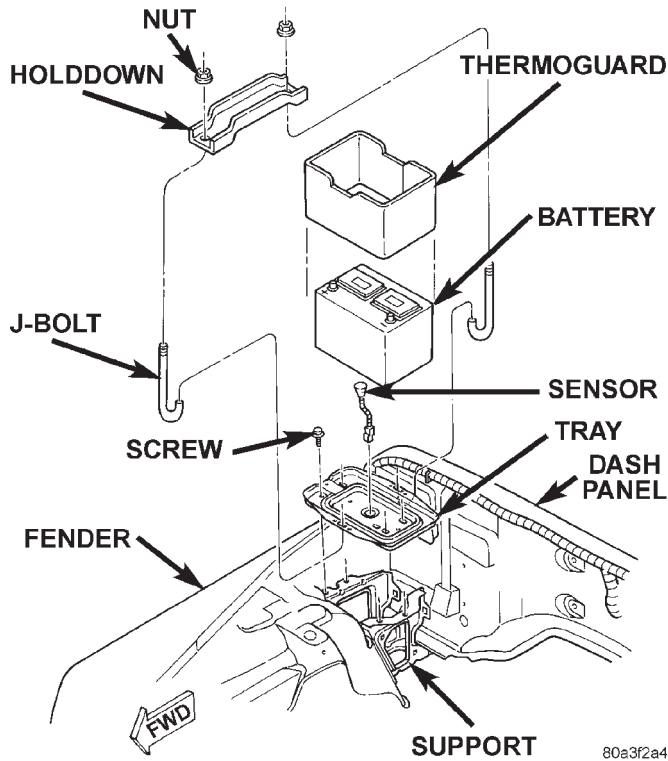

Fig. 17 Battery Hold Downs
(4) Remove the battery hold downs and remove the battery from the battery tray (Fig. 17).
(5) Inspect the battery tray and hold downs for corrosion or damage. Remove any corrosion using a wire brush and a sodium bicarbonate (baking soda) and warm water cleaning solution. Paint any exposed bare metal and replace any damaged parts.
(6) Slide the thermoguard off of the battery case. Inspect the battery case for cracks or other damage